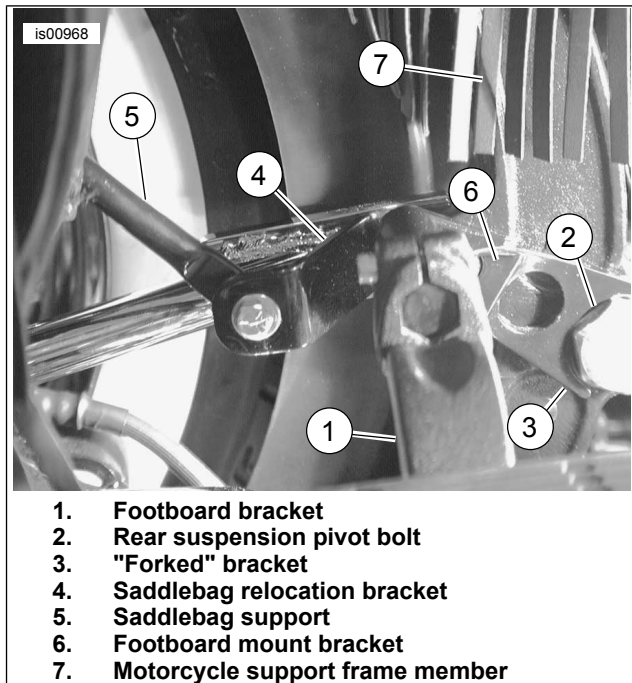

Figure 3. Footboard Mounting
6. **On models with passenger footpeg and saddlebag relocation bracket, see Figure 2. On models with passenger footpegs and toolbox: On models with Passenger Footboard Kit (50602-00), see Figure 3.**